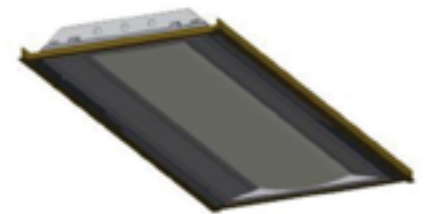

Fig. 1-6
- 5.) Raise the frame and push up into the existing fixture and close the latches. The latch should lock into the previously installed universal frame brackets. (Fig. 1-6)